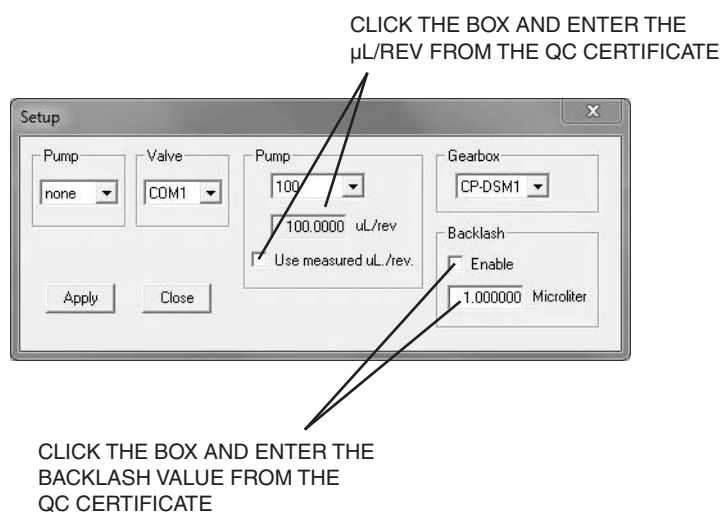

Figure 9: Setting the backlash and volume per revolution values
2. Click the Enable box under Backlash on the Setup screen, and type in the backlash value, as indicated in **Figure 9** on the page opposite.